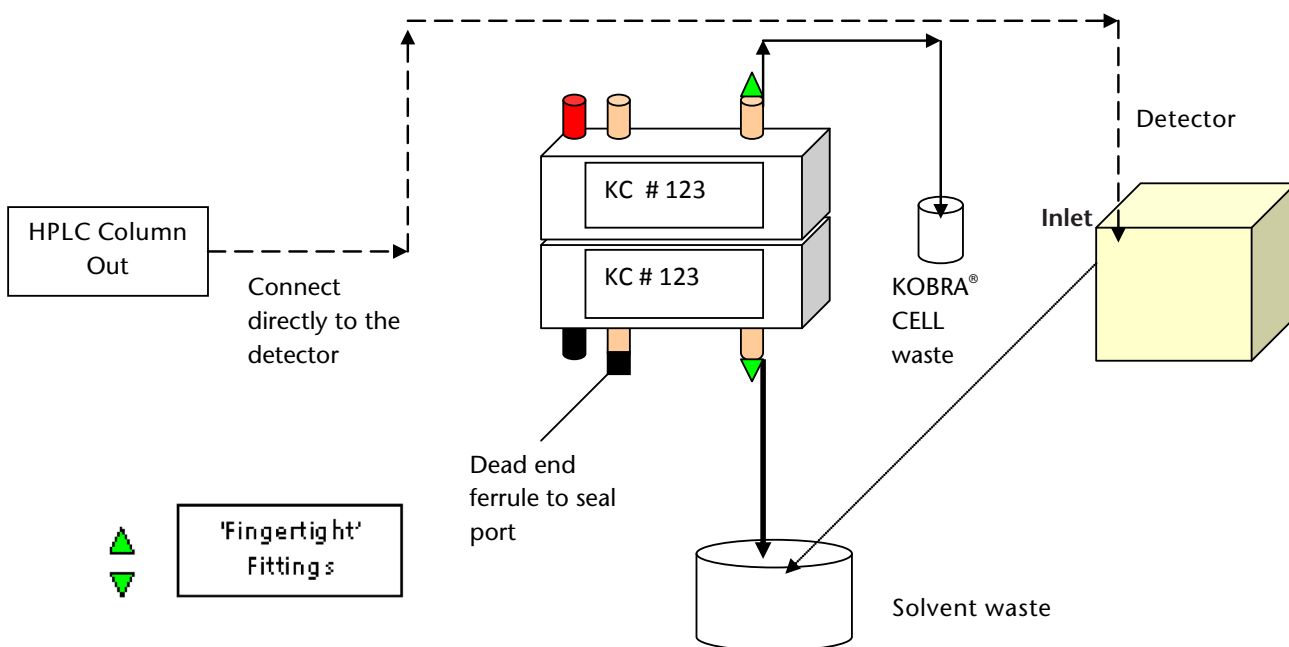

Fig 5. KOBRA® CELL Switched Off for Washing and Storage
- The KOBRA® CELL should be switched off and disconnected for washing and storage (Fig. 5).